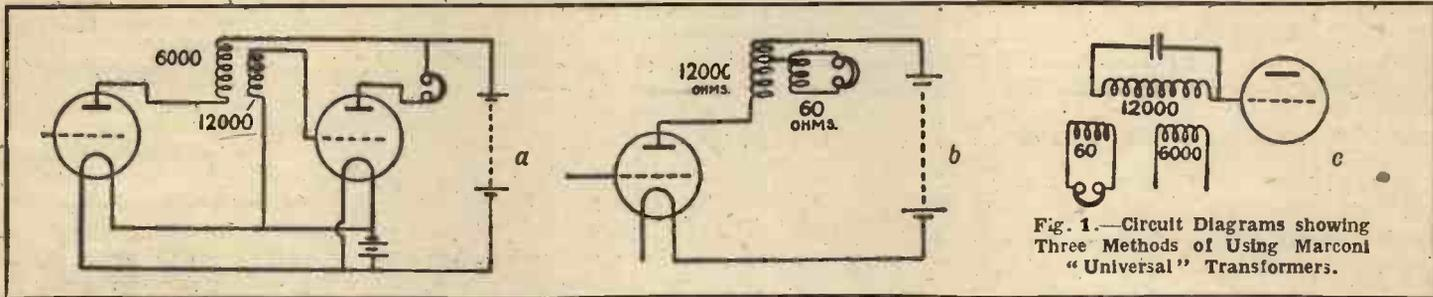

Fig. 1.—Circuit Diagrams showing Three Methods of Using Marconi "Universal" Transformers.
ONE of the most useful and efficient transformers that it has been my good fortune to come across is the "Universal," made by the Marconi Scientific Instrument Company. A photograph was not made because this transformer is in appearance exactly like the same firm's box-type illustrated in a previous article, save that it has three pairs of terminals instead of two, and that it is considerably larger, measuring 6½ in. in length by 3 in. wide by 3 in. deep. It contains three sets of windings on a common open iron core. The first is wound to a direct-current resistance of 6,000 ohms, the second to 12,000, the third to 60. It can be used as (1) an intervalve transformer, (2) telephone transformer, (3) as a three-coil transformer for dual amplification circuits. The connections are shown in the diagrams *a*, *b* and *c* (Fig. 1).